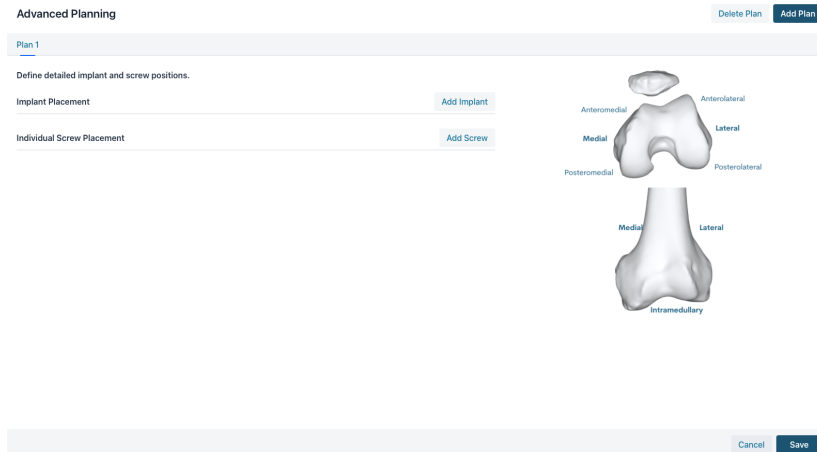

Figure 6 Advanced Planning Editor.
- 15.5.6 To create an *Advanced Plan*, you need to open the *Advanced Planning* editor (see Figure 6). using the button at the top right of the page In the *Advanced Planning* editor, you will be able to specify the implant positions in more detail, chose a specific implant model for each position and state which screws you would like to use in the implant. Additionally, you can define individual screws that you would like to place.
15.5.9.3 In the *Advanced Plan* you can select more detailed implant positions compared to the *Simple Plan*. The possible positions are indicated to you in the image on the right side of the editor (see Figure 6).